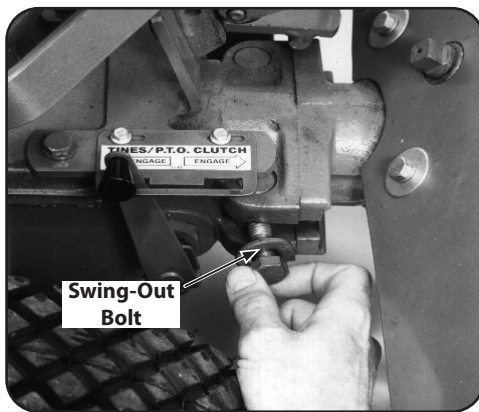

Figure 4-22
8. Then move the swing-out bolts out. See Figure 4-22.